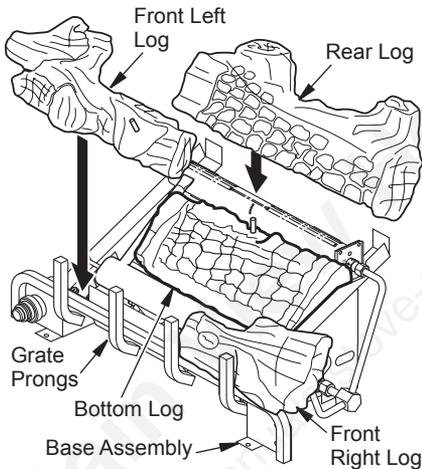

Figure 20 - Installing Log Set
1. Place bottom log in center of the base assembly as shown in Figure 20.
2. Rest rear log in back corner sections of base assembly as shown in Figure 20. Make sure log is completely vertical and not leaning in toward burner where flame will touch the log.
3. Position front right log against right side of grate prongs (see Figure 20).
4. Position front left log against left side of grate prongs (see Figure 20).